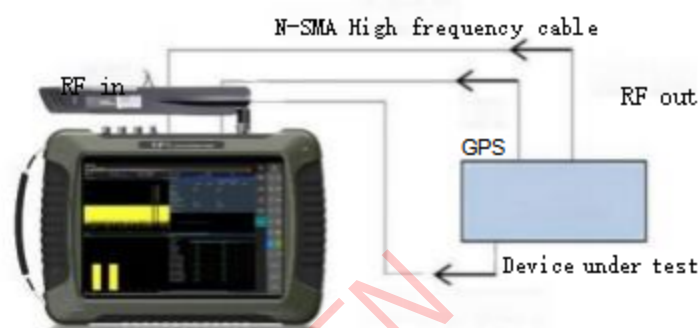

Figure 8.9 Parameter setting diagram
- In the [Signal Description] property page, select the test template: FDD E-TM1_1__1.4MHz, and the setting interface is shown in Figure 8.9: